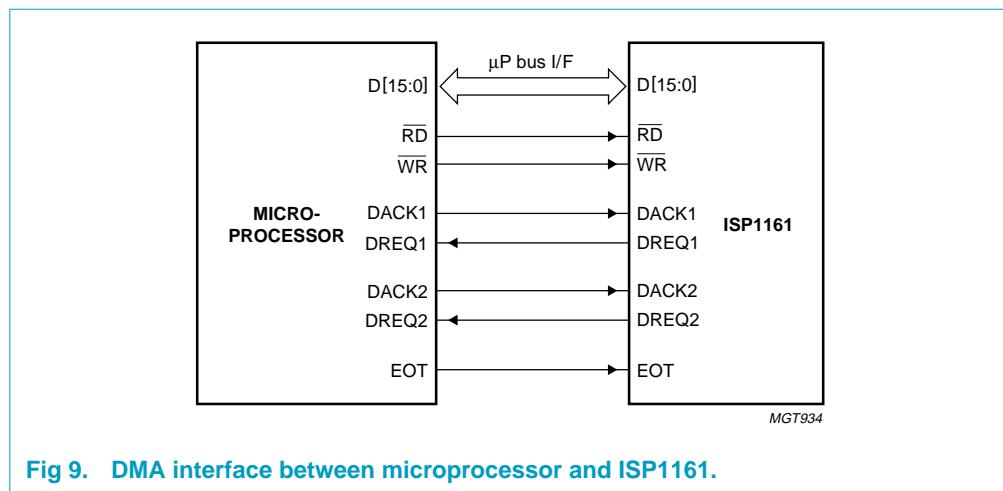

Fig 9. DMA interface between microprocessor and ISP1161.
**Figure 9** shows the DMA interface between a microprocessor system and ISP1161. ISP1161 provides two DMA channels:
The DMA interface between a microprocessor and ISP1161 is shown in Figure 9.